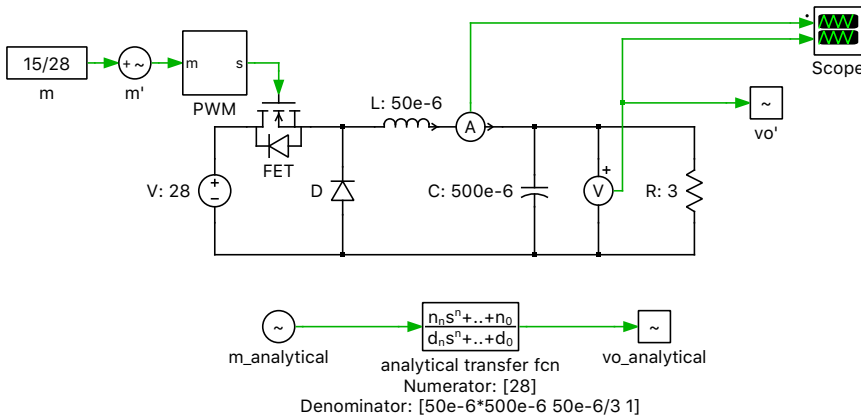

Figure 7: Schematic of the buck converter with small signal blocks and analytical transfer function
There is an additional analytical transfer function block in the file analysis_tools_openloop_2.plecs, as shown in Fig. 7. This is the analytical transfer function of the buck converter.
- 1 Choose the pre-configured Impulse Response Analysis, and under the **Perturbation** and the **Response** parameters, choose m' and vo' blocks, respectively, from Fig. 7. Then start the analysis. Save the current trace by clicking on the  icon in the plot window.
- 2 Next, choose the $m_{\text{analytical}}$ and $vo_{\text{analytical}}$ blocks in the model, that are also shown in Fig. 7, and repeat the analysis.